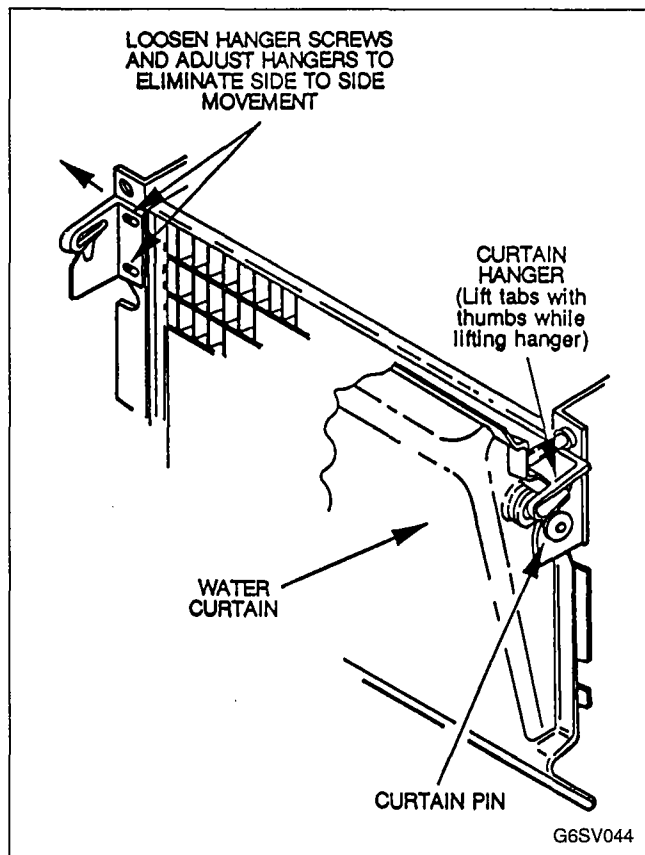

FIGURE 46. WATER CURTAIN CHECK
1. Pull bottom of water curtain (Figure 46) away from evaporator, then release. Curtain should fall back to evaporator.